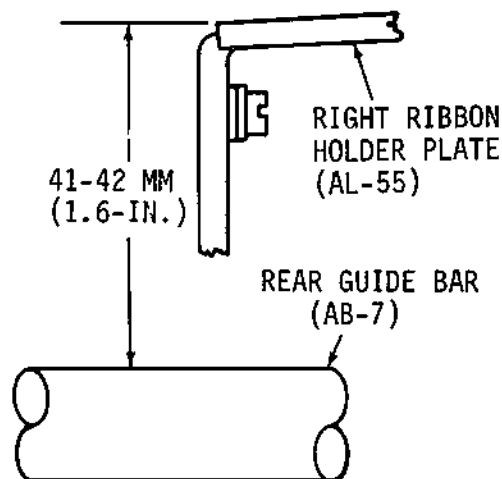

Figure 5-16. LOCATING DIMENSION FOR RIGHT RIBBON HOLDER PLATE WITH RESPECT TO REAR GUIDE BAR
b. Right Ribbon Holder Plate (AL-55) (Fig. 5-16)
- (1) Maintain parallelism of bracket (AL-55) with respect to printer base and apply a distance of 41-42 mm (1.6-in.) between top of bracket and top of rear guide bar (AB-7).
- (2) Tighten mounting screws, washers (AL-93, 94, 95) of bracket when parallelism and correct distance has been attained.